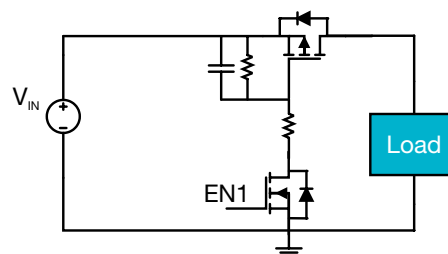

Figure 4: A discrete MOSFET with an RC rise time to limit inrush current.
For a discrete power switch, one common method to manage inrush current is to install a resistor-capacitor (RC) that slows down the MOSFET switching speed, as shown in **Figure 4**.